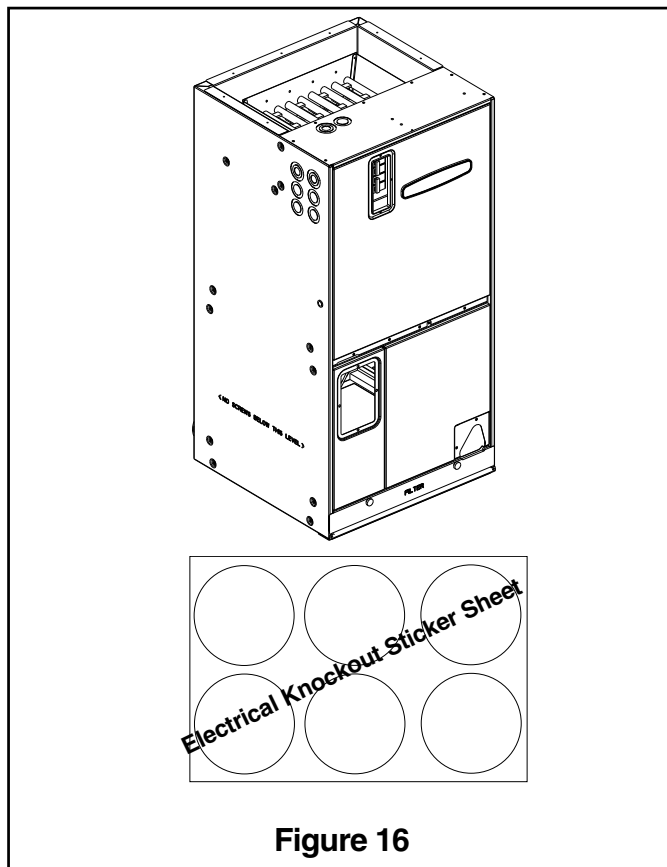

Figure 16
- k. **Openings where field wiring enters the cabinet must be completely sealed.** Location of power entry is shown on the Outline Drawing. Use 2.5" clear stickers provided to seal all unused electrical knockouts. See Figure 16.
Use 2.5" clear stickers provided to seal all unused electrical knockouts. See Figure 16.
- r. **Openings where field wiring enters the cabinet must be completely sealed.** Location of power entry is shown on the outline drawing. Use 2.5" clear stickers provided to seal all unused electrical knockouts. See Figure 16.
p. Openings where field wiring enters the cabinet must be completely sealed. Location of power entry is shown on the outline drawing. Use 2.5" clear stickers provided to seal all unused electrical knockouts. See Figure 16.